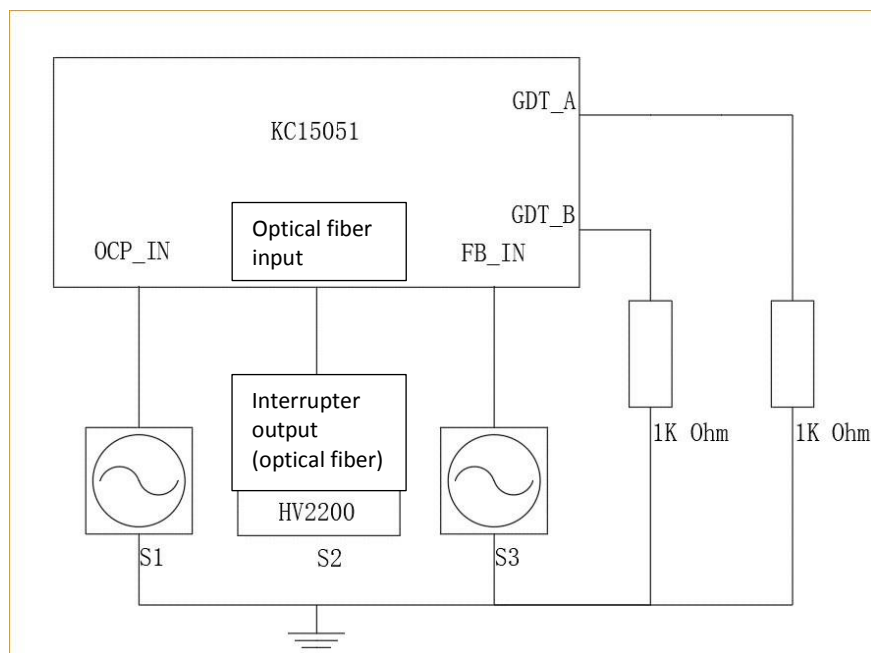

Figure 7. Test circuit
1. Firstly, test driver for proper operation (*Figure 7.*) You should check FB\_IN current transformer polarization. Wrong wiring may destroy a driver.